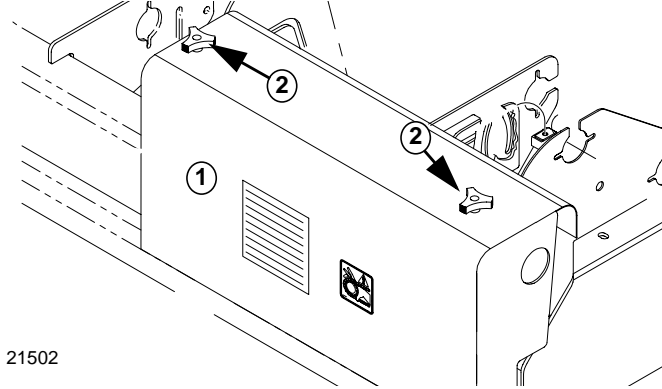

Figure 3-1
To change drive types, remove the chain guard (1) by loosening wing nuts (2). See Figure 3-1.